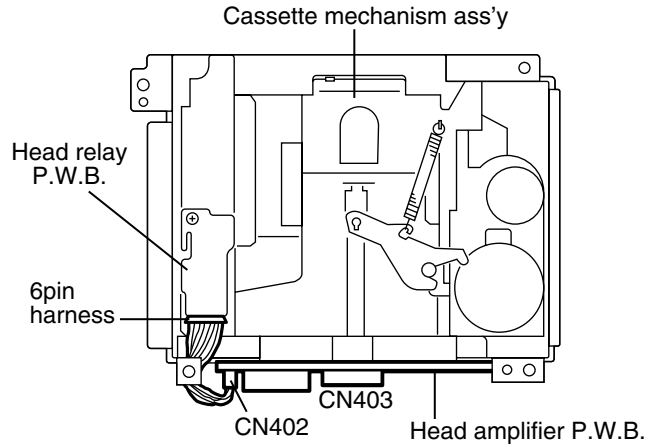

Fig.1
(See Fig.1 and 2)**
■ Removing the cassette mechanism assembly (See Fig.1 to 3)
1. Disconnect the 6pin harness from connector CN402 and the card wire from CN403 on the head amplifier P.W.B. (Refer to Fig.1 and 2).